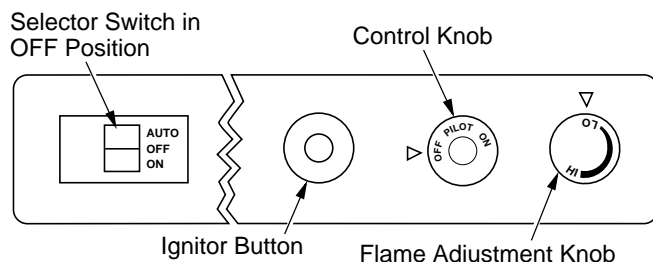

Figure 49 - Control Knob and Ignitor Button Location (Shown as Supplied - No Control Options)
4. Press in and turn control knob clockwise  to the OFF position (see Figure 49).
5. Wait five (5) minutes to clear out any gas. Then smell for gas, including near the floor. If you smell gas, STOP! Follow "B" in the safety information, column 2, page 24. If you don't smell gas, go to the next step.
6. Press in and turn control knob counterclockwise  to the PILOT position. Press in control knob for five (5) seconds (see Figure 49).